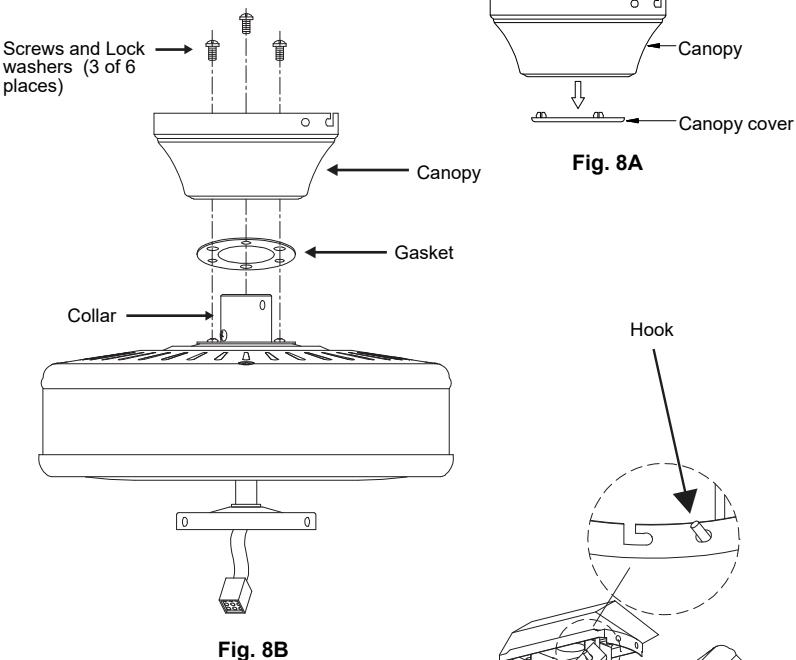

Fig. 8B
**Step 4.** Remove three of the six screws and lock washers (every other one) from the collar of top motor (**Fig. 8B**)
**Step 5.** Place the ceiling canopy and the gasket over the collar at the top of the motor. Align the mounting holes with the holes in the motor and fasten using the screws and lock washers provided (**Fig. 8B**).
**Step 6.** Tighten the mounting screws securely (**Fig. 8B**).